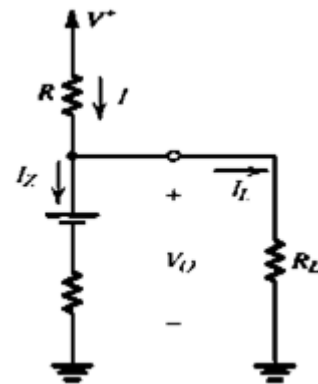

Figure 2
5. In figure 2, a 7.5-V zener regulator circuit using a 7.5-V zener specified at 12 mA. The zener has  $Z_z = 30 \Omega$  and a knee current of 0.5 mA. The regulator operates from a 10-V supply and has a 1.2-k $\Omega$  load. Find  $V_{zk}$ , and what is the value of R you have chosen when the total current I is 10 mA?